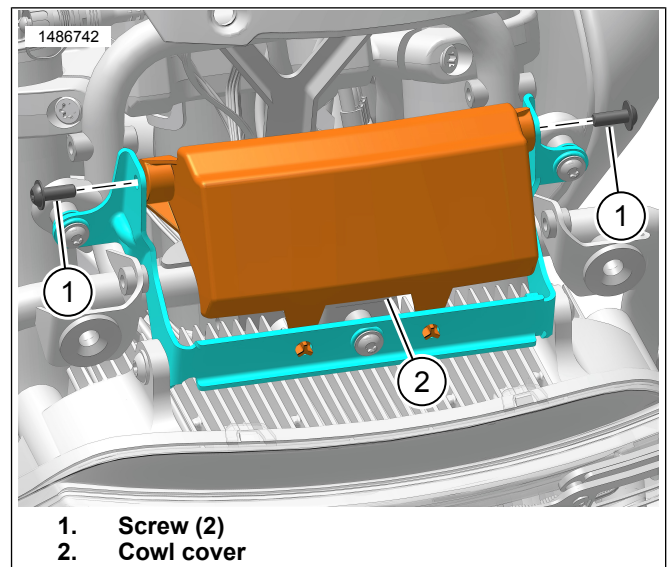

Figure 3. Blockout Plate
2. See Figure 3. Remove cowl cover.
- a. Remove screws (1).
- b. Remove and discard cowl cover (2).